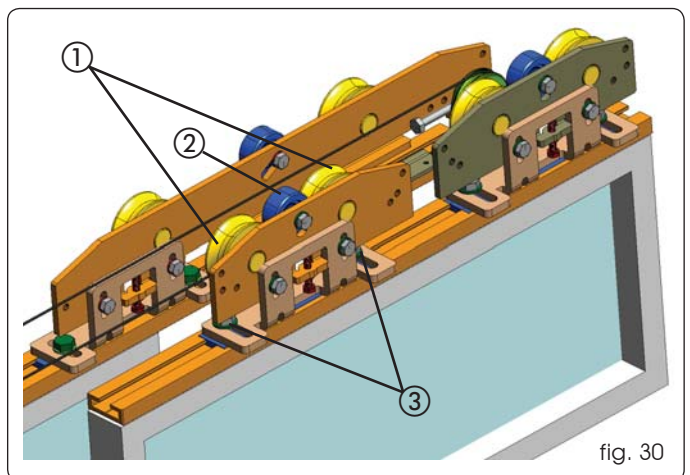

fig. 30
The carriages have two sliding wheels (Fig.30 ref. ①) and a counter-thrust wheel (Fig.30 ref. ②)
Two slots are provided on the base of the carriages. These slots enable leaf depth adjustment (Fig.30 ref. ③)